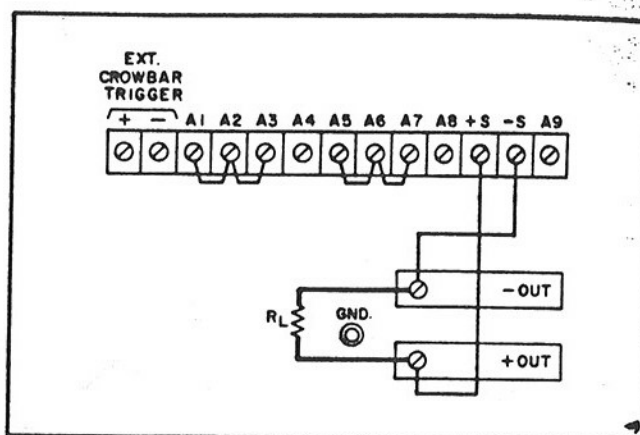

Figure 3-2. Normal Strapping Pattern
a. Turn CURRENT controls ⑦ and OVERVOLTAGE ADJUST potentiometer ⑤ fully clockwise and check that rear panel straps are connected as shown in Figure 3-2, but do not connect load  $R_L$ .
c. Set LINE switch or circuit breaker ① ON and observe that pilot lamp ② lights.
d. Adjust COARSE and FINE VOLTAGE controls ③ for desired indication on voltmeter ④
e. Ensure that overvoltage crowbar circuit is operational by slowly turning OVERVOLTAGE ADJUST control ⑤ counterclockwise with a screwdriver until OVERVOLTAGE lamp ⑥ lights and voltmeter indication drops to zero volts.
g. To check the constant current circuit, first turn off the supply, connect a short across the output bus bars (see Figure 3-2), and turn it back on.
h. Adjust **COARSE** and **FINE CURRENT** controls (7) until ammeter (8) indicates desired output current or current limit. (The **VOLTAGE** controls must be set for a greater-than-zero output to obtain the output current programmed.)
3-7 This power supply was shipped with the proper rear panel strapping connections made for constant-voltage/constant-current operation with local sensing and local programming. This strapping pattern is illustrated in Figure 3-2. By means of the front panel voltage and current controls, the operator selects either a constant-voltage or a constant-current output. Whether the supply functions in the constant-voltage or the constant-current mode depends on the settings of the voltage and current controls and on the resistance of the output load. For values of load resistance greater than a critical crossover value equal to the voltage setting divided by the current setting, the supply operates in the constant-voltage mode. With a load resistance smaller than this critical value, it operates in the constant-current mode. The transition occurs automatically; no switches need to be operated or connections changed.
3-28 Because of the unavoidable voltage drop developed in the load leads, the normal strapping pattern shown in Figure 3-2 will not provide the best possible voltage regulation at the load. If, for example, one were to use 4-gauge wire to connect a load that is located only 5 feet from a
*The +S jumper is the one that links the +S terminal to the +OUT terminal when the supply's terminals are strapped for normal operation as shown in Figure 3-2. The -S jumper is the one that links the -S terminal to the -OUT terminal.*